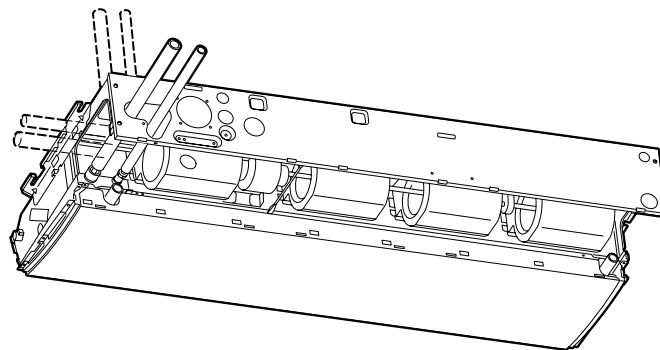

Fig. 3-127
- * If the drain hose is routed through the left side, refer to Fig. 3-127, and follow the procedure above to install the hose. Re-attach the rubber stopper that was earlier removed onto the right side.